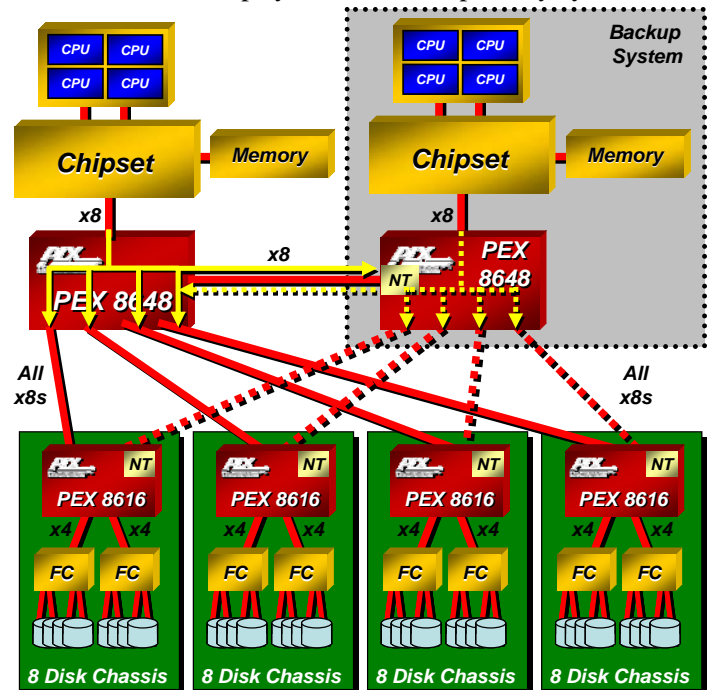

Figure 6. Dual Cast in Storage Systems
The PEX 8648's Dual Cast feature proves to be very useful in storage systems. In Figure 6, the Dual Cast feature enables the PEX 8648 to copy data going to its four downstream ports to the backup system and vice versa (see yellow traffic patterns) in one transaction as opposed to having to execute two separate transactions to send data to the redundant chassis. By offloading the task of backing up data onto the secondary system, processor and system performance is enhanced. Non-Transparent (NT) ports are used to isolate the host domains of the backup system from the primary system.